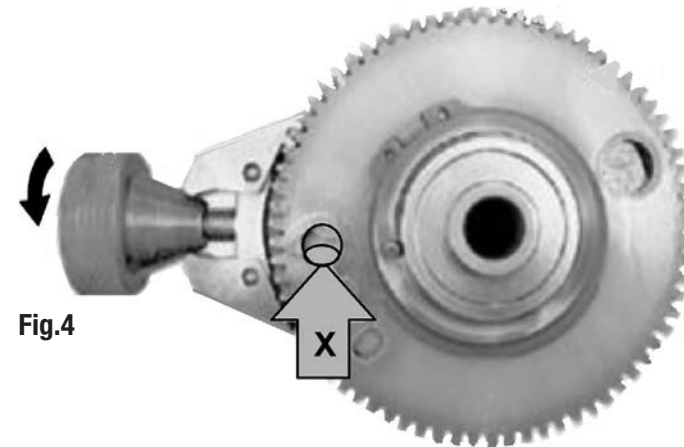

Fig.4
Used as shown in Fig.4 to maintain the tension on the 2 halves of the split camshaft gears. Ensure the holes (X) are kept aligned.